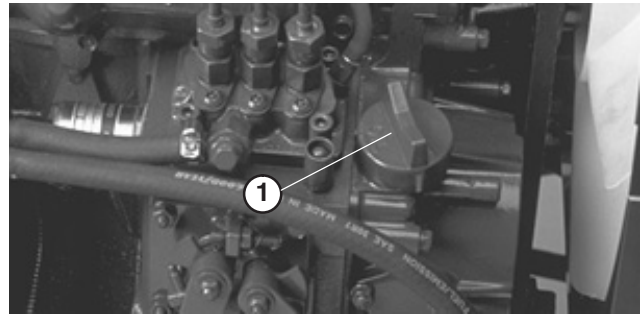

Figure 26
3. If oil level is low, remove oil fill cap (Fig. 26) and gradually add small quantities of oil, checking level frequently, until level reaches FULL mark on dipstick.